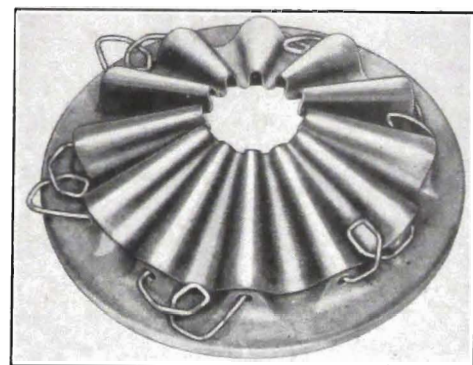

Fig. 6-106. Clutch Spring
4. Unhook all retainer springs from crown spring by working one leg of retainer spring toward center of clutch and other leg away from the center. See Fig. 6-106.